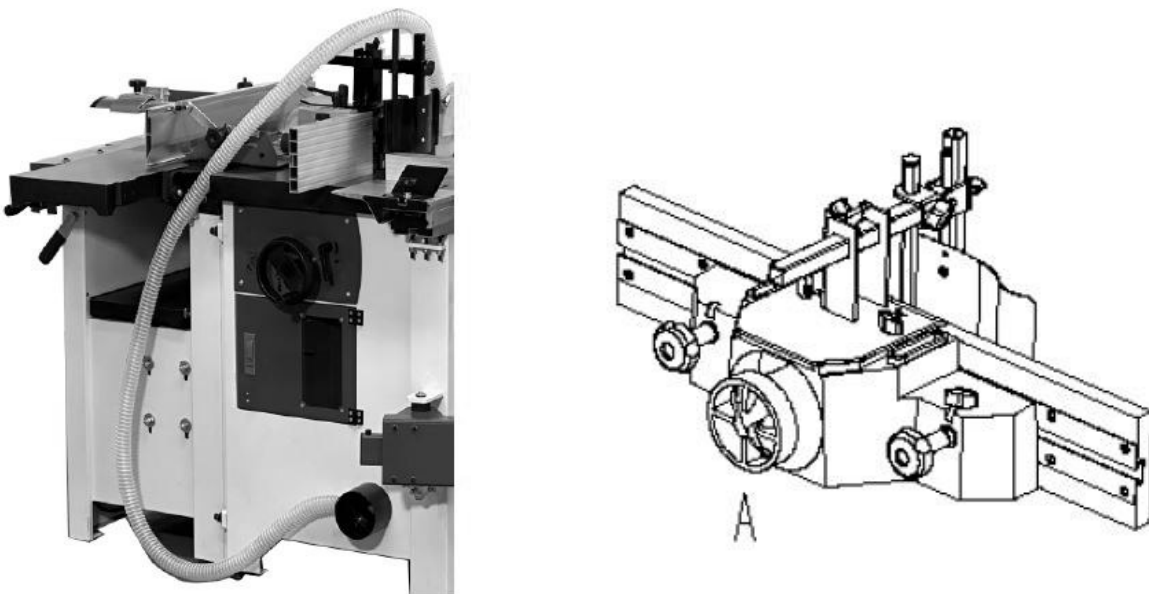

Fig.5-1: Extraction saw (left) and extraction milling machine (right)
Make sure the wheels are facing up as shown in Fig. 5-1.
- Attach the lifting device to the front of the machine using the screws and washers as shown in Fig. 5-1.
When the trolley is not in use, the wheels must be raised off the ground by unscrewing the adjusting screw (A in Fig. 5-1). The wheels must be lowered again before using the trolley.